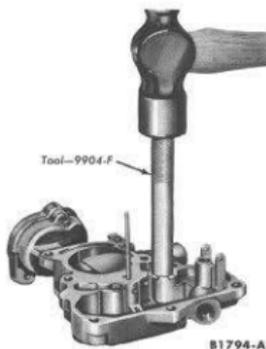

FIG. 27—Power Valve Piston Installation
4. Install the power valve piston. Use Tool 9904-F (Fig. 27).